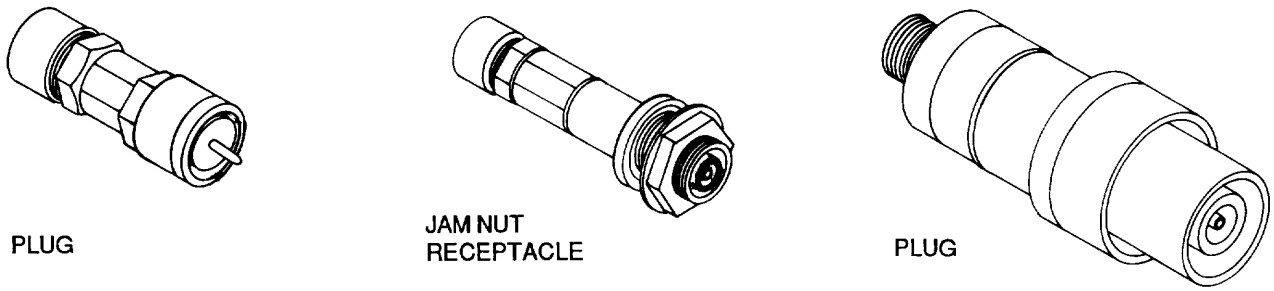

Figure 3. Typical Pulse Series Connectors
14. **Description.** These connectors are designed for use with rubber dielectric pulse cables, but may also be used with equivalent size cables of other construction where high voltage is not required. Ceramic or rubber inserts are utilized depending upon voltage requirements. Peak voltage with ceramic inserts is 18,000 volts and 9000 volts with rubber inserts. Connectors are intended for frequencies up to 100 MHz with a maximum operating temperature at 257°(125°C). These connectors are covered by applicable Military Specifications (Table 1). Typical connectors are illustrated (Figure 3).